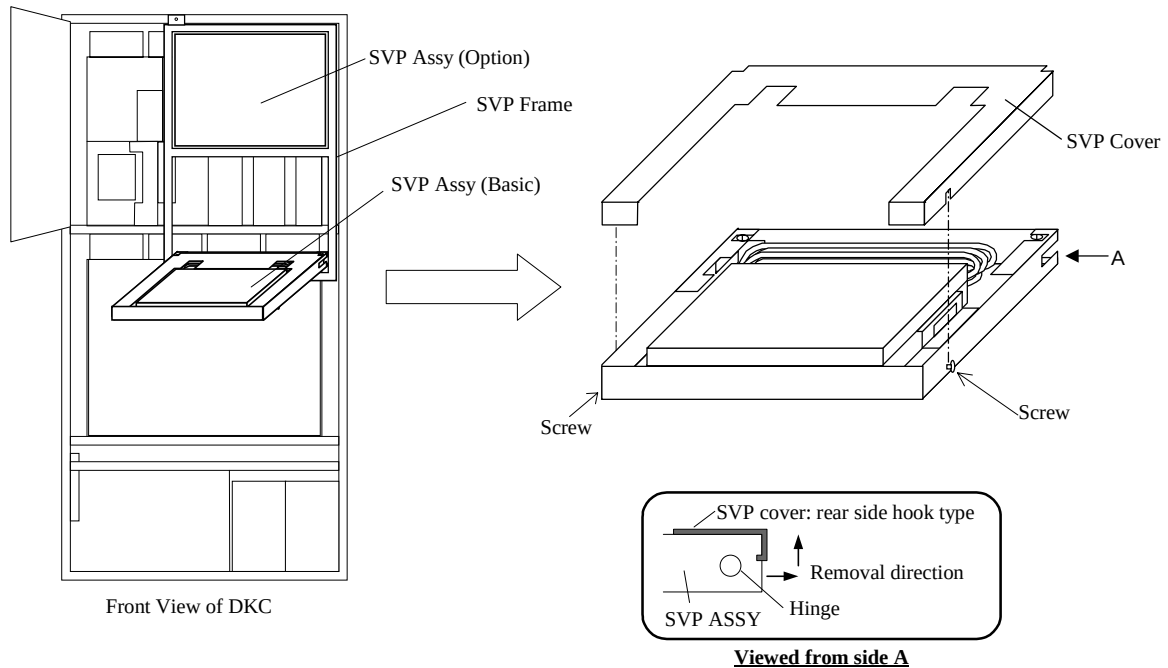

Fig. 4.12-11 Removing SVP cover
- c. Attach the SVP cover. (See Fig. 4.12-11.)